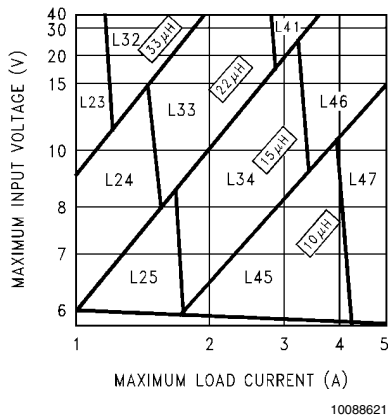
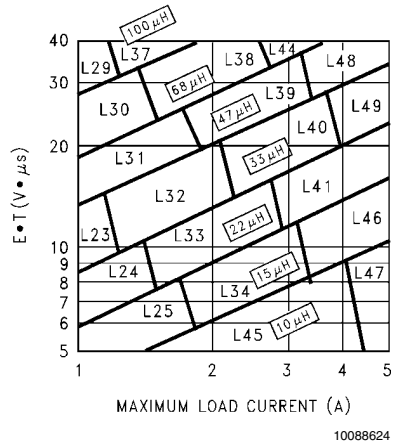

FIGURE 3. LM2678-3.3
FIGURE 6. LM2678-ADJ
Step 3: Determine the inductor required by using one of the four nomographs, Figure 3 through Figure 6. Table 1 provides a specific manufacturer and part number for the inductor.
Step 5: Determine an input capacitor from Table 4 for fixed output voltage applications. Use Table 2 to find the specific capacitor type. For adjustable output circuits select a capacitor from Table 2 with a sufficient working voltage (WV) rating greater than $V_{in\ max}$, and an rms current rating greater than one-half the maximum load current (2 or more capacitors in parallel may be required).
Step 3: Use the nomograph for the 3.3V device, Figure 3. The intersection of the 16V horizontal line ($V_{in\ max}$) and the 4A vertical line ($I_{load\ max}$) indicates that L46, a 15 μ H inductor, is required.
Step 3: To use the nomograph for the adjustable device, Figure 6, requires a calculation of the inductor Volt•microsecond constant ($E \cdot T$ expressed in $V \cdot \mu s$) from the following formula:
Using Figure 6, the intersection of $27\text{V} \cdot \mu\text{s}$ horizontally and the 3.5A vertical line ($I_{\text{load max}}$) indicates that L48, a $47\mu\text{H}$ inductor, or L49, a $33\mu\text{H}$ inductor could be used. Either inductor will be suitable, but for this example selecting the larger inductance will result in lower ripple current.
Figure 6, selects an inductance of $22\mu\text{H}$ or less, Table 6 does not provide an output capacitor solution. With these conditions the number of output capacitors required for stable operation becomes impractical. It is recommended to use either a $33\mu\text{H}$ or $47\mu\text{H}$ inductor and the output capacitors from Table 6.